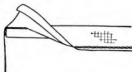

FIGURE 111
*Straight Facing* (Figure 111). — Straight facings are used on straight